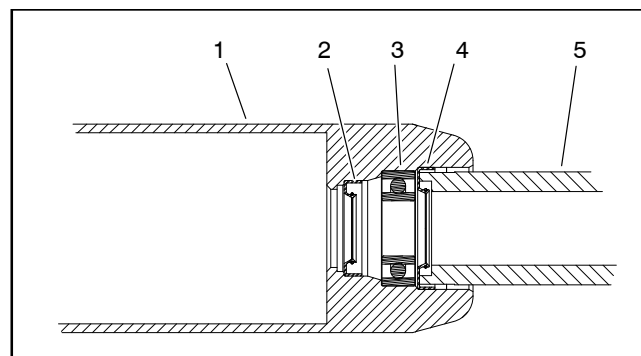

Figure 44
C. Install first outer seal into roller tube making sure that seal lip (and garter spring) faces end of tube. Use bearing/outer seal tool (see Special Tools) and soft face hammer to lightly seat seal against roller shoulder (Fig. 44). Make sure that bearing still freely rotates after seal installation.